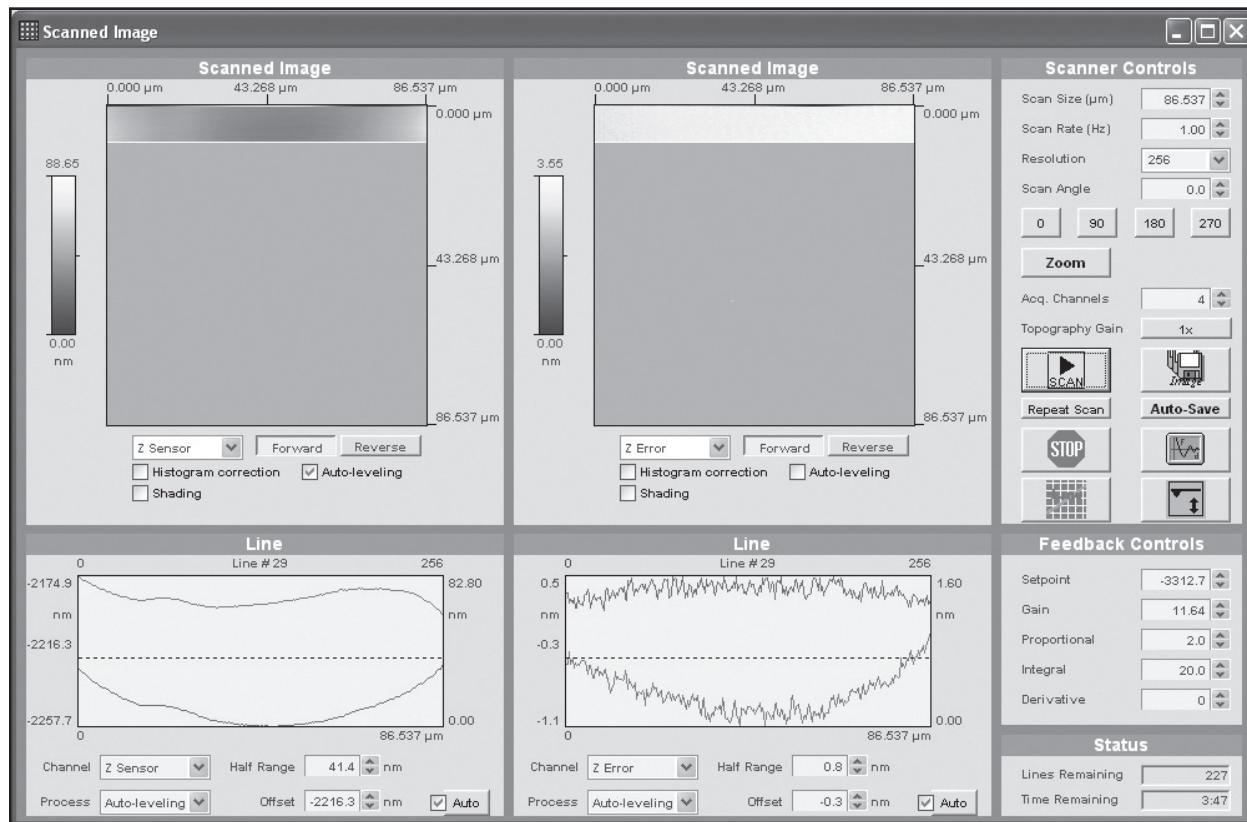
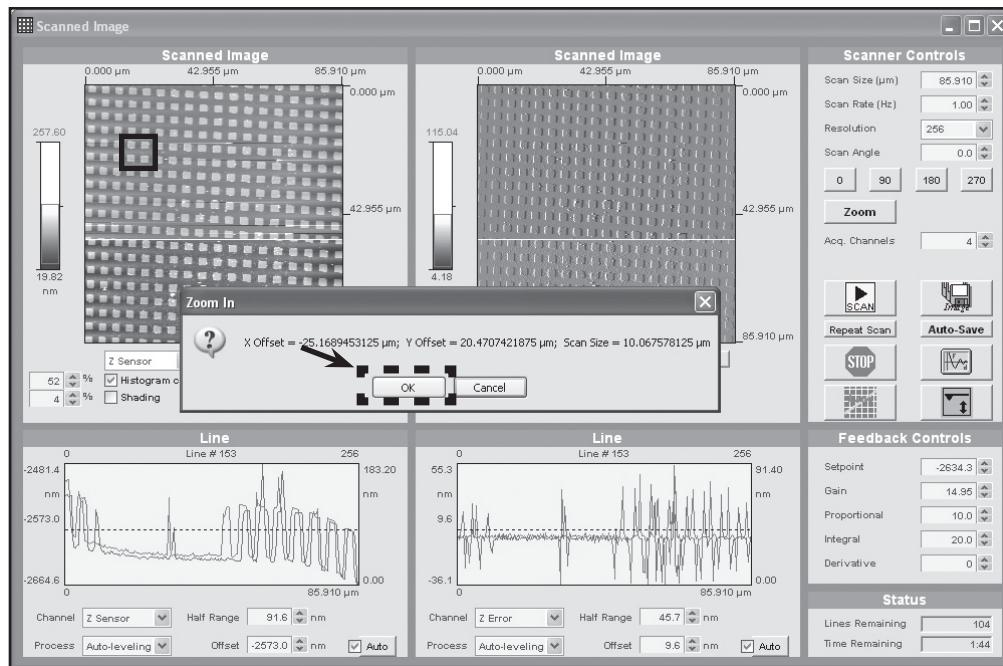

Figure 3.40: Scan in progress
Figure 3.41: Zooming in on features dialog box
- Sometimes the generated image and line profiles look like those shown in Figure 3.40. If this is the case, it's necessary to adjust the set point as described in the next section, Adjusting the Set Point. The image and the line profile should look similar to that shown in Figure 3.41.